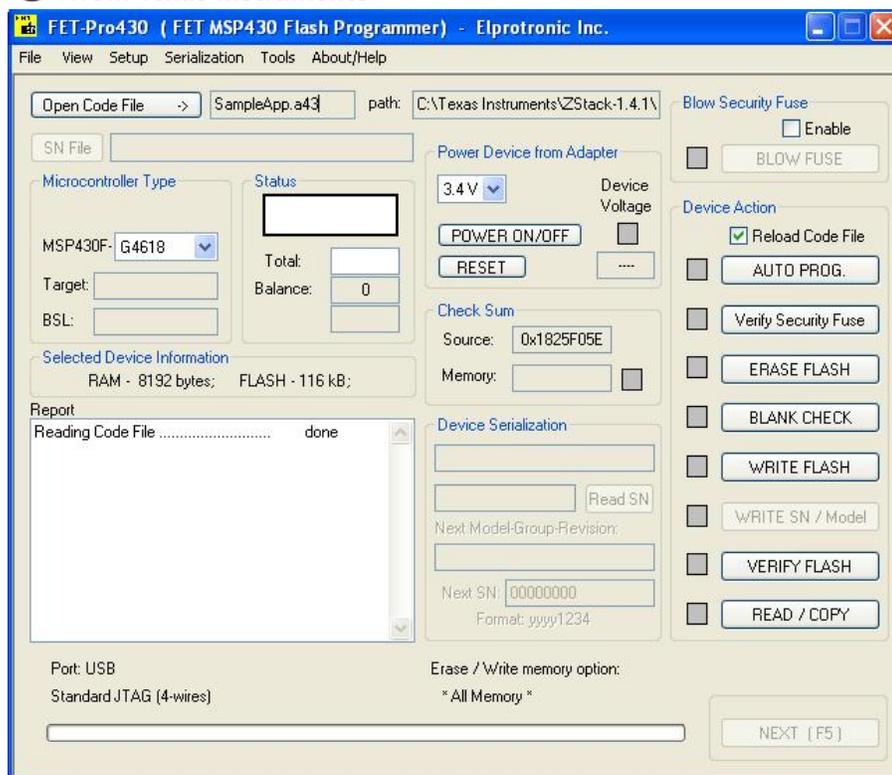

Figure 2 FET programmer
2. Start FET lite programmer tool. Press *Setup->Connection/Device Reset* and set COM port to USB. Then Click *OK*. Set *Microcontroller Type* to MSP430FG4618. Push the button *Open Code File* and navigate to the downloaded *SampleApp.a43* file (See Figure 2).